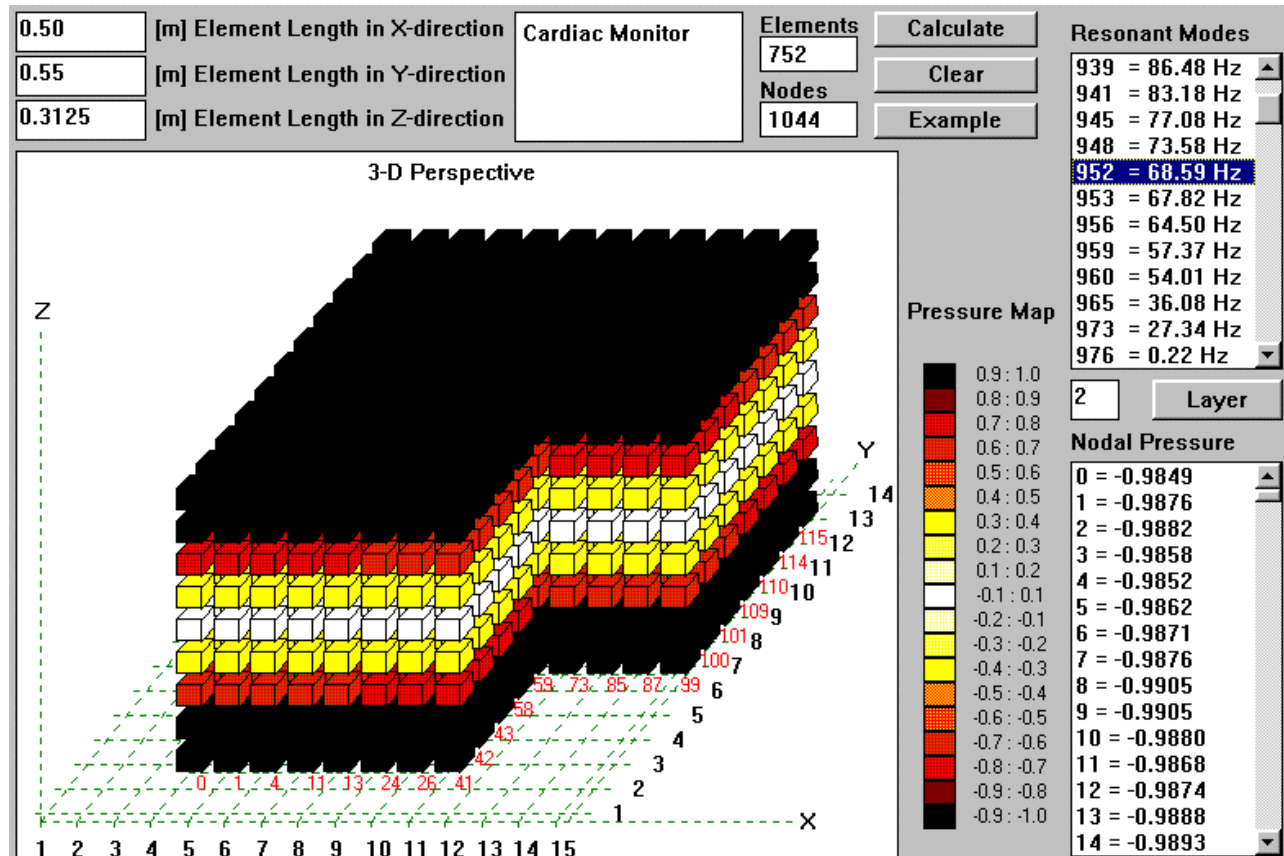

Figure 9. Pressure distribution of the 68Hz mode.
4. Fig 9 shows 68.6Hz mode developed between the floor and ceiling